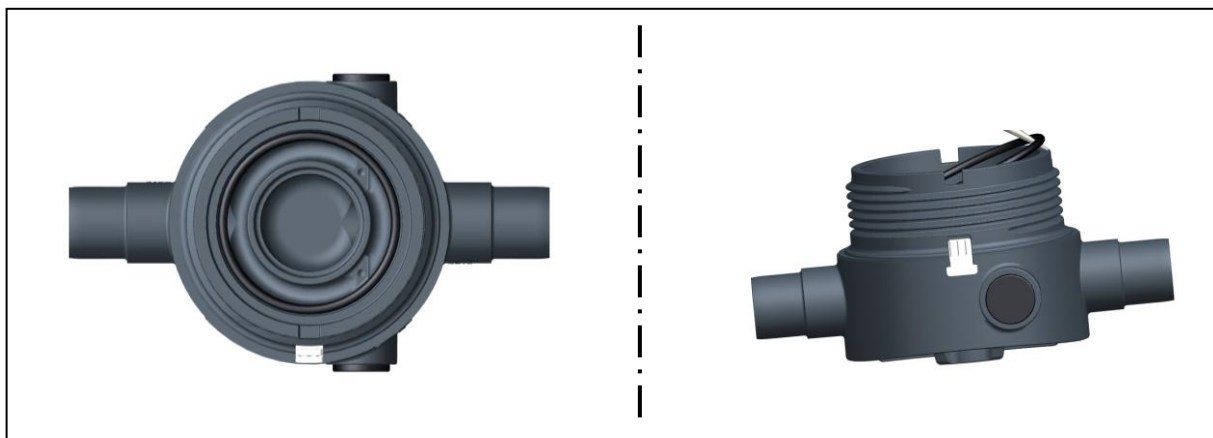

Fig. 10
- Remove 2 O-rings from base part, see Fig. 10